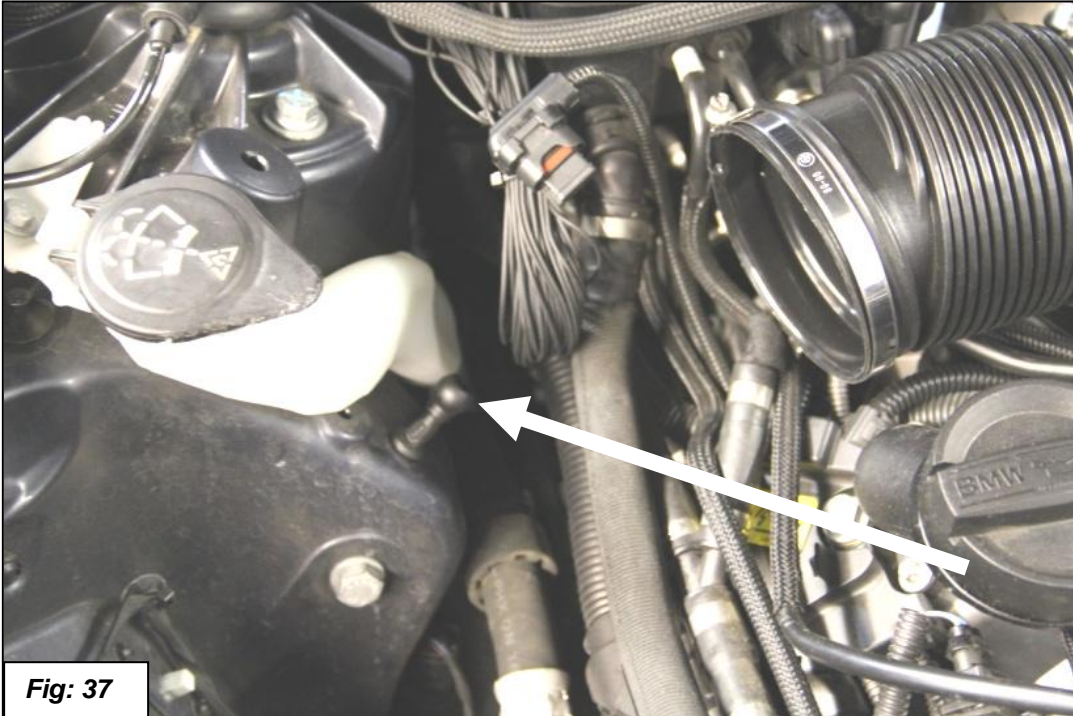

Fig: 37
25. Pull up on rear of air box to release ball joint. Air box should now be able to lift out of engine bay. See figure 37.